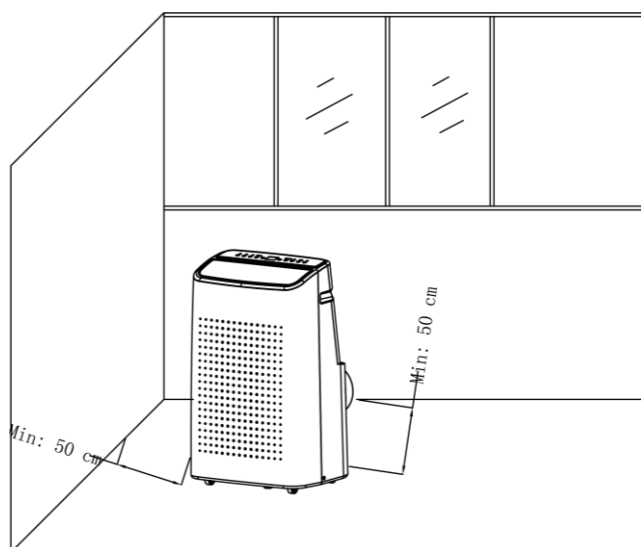

Figure 4
- 1) Move the machine with installed heat pipe and fittings before the window, and the distance between the body and walls or other objects shall be least 50 cm (as shown in Fig.4).